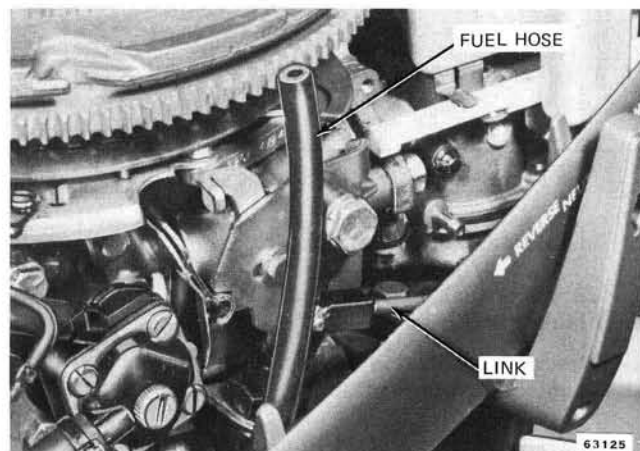

Figure 6-64. Disconnected Hose
1. Remove fuel hose on carburetor. See Figure 6-64.